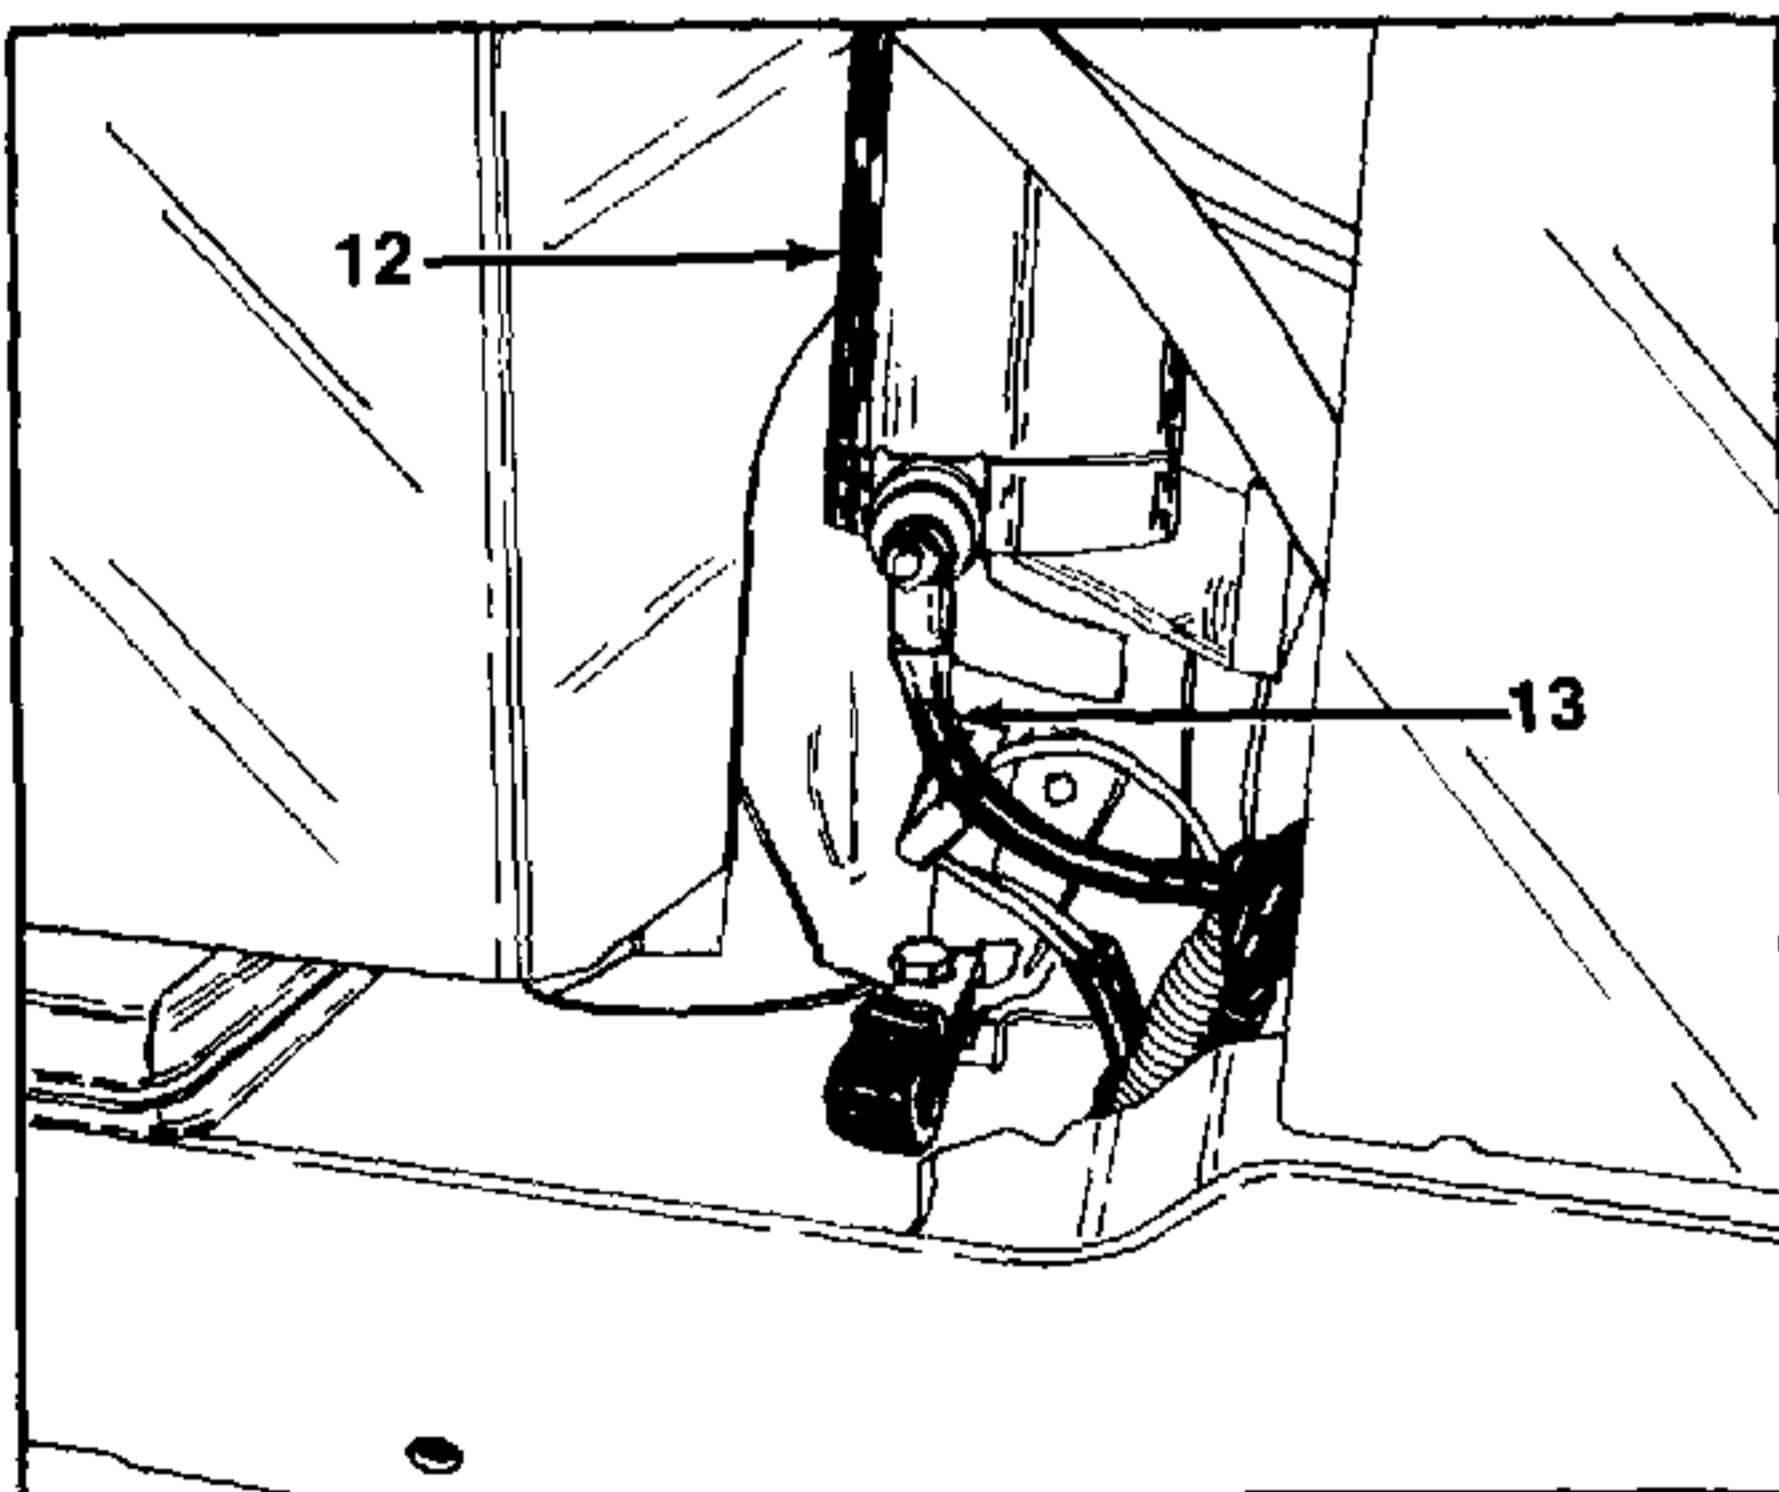

FIGURE 6.
9. Disconnect the starter cable at starter on engine. See figure 6.